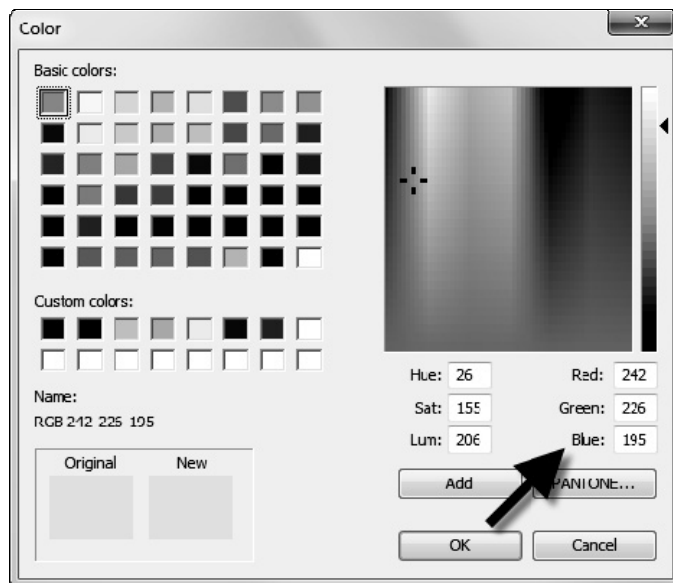

FIGURE 4-3.18 Materials dialog; Adjust appearance color
52. Change the RGB numbers as follows (Figure 4-3.18):